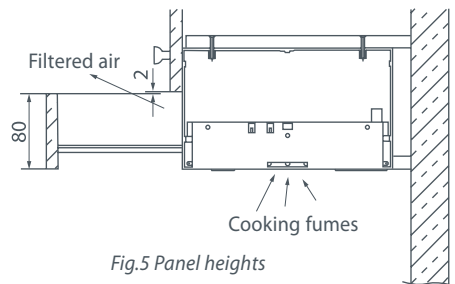

Fig.5 Panel heights
Ensure the overhead cabinets are built according to Fig.5 (below).
- 3 Replace 'B' with Replacement Front Panel 'C' constructed of same or similar material as cupboard doors. See Fig.5 for height of panel.